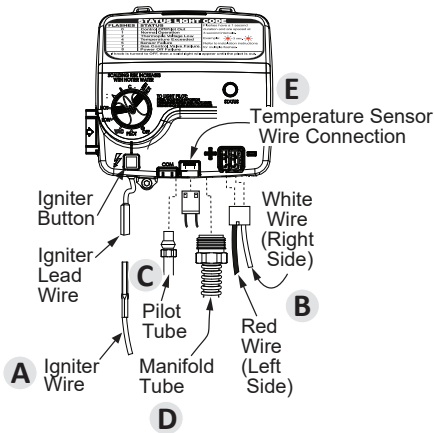

Figure 6: Gas valve connections.
- 5 Go to the gas control valve/thermostat and disconnect the pilot tube (7/16" wrench), igniter wire from the igniter lead wire, and manifold tube (3/4" wrench). Disconnect the sensor wire (lift white lever outward, then gently pull the plug downward). Disconnect the red (+) and white (-) Thermopile wires from the gas control valve/thermostat (See Figure 6).
6 Reconnect the manifold tubing (3/4" wrench), pilot tubing (7/16" wrench), to the gas control valve/thermostat. Also connect the igniter wire, the red (+) and white (-) thermopile wires. (see Figure 6 for the correct position of each connection). Do not cross-thread or apply any thread sealant to the fittings.